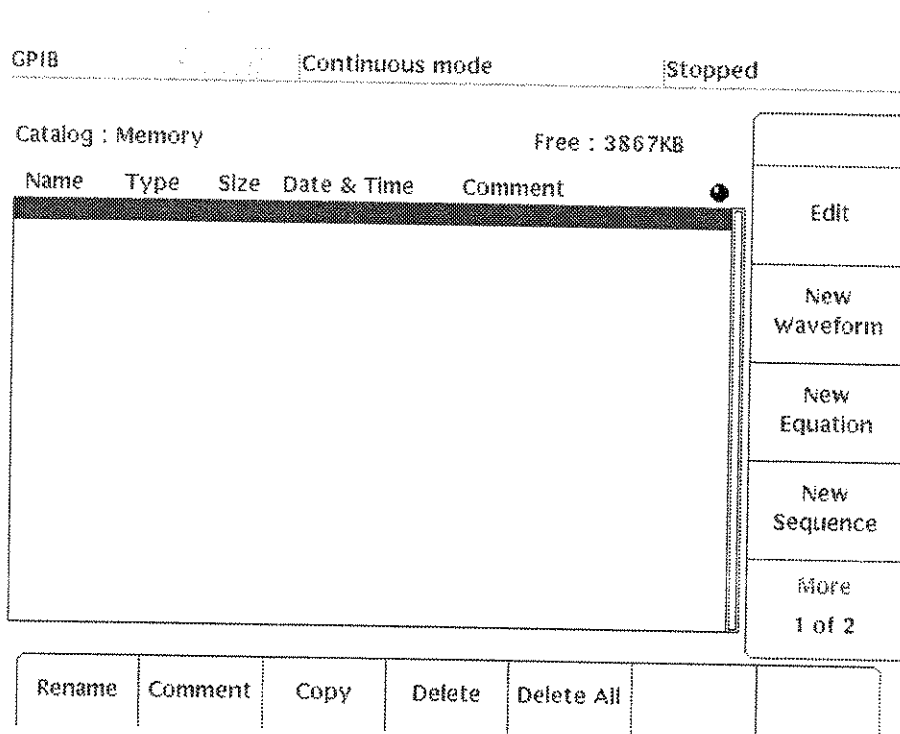

Figure 2-24: Initial Menu
- Step 1:** Press the **EDIT** button in the **MENU** column. Figure 2-24 shows the initial menu displayed.